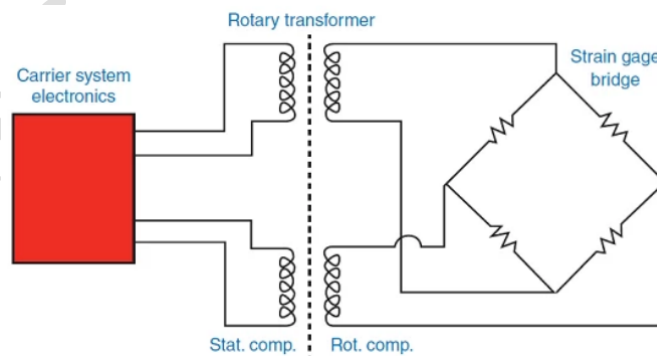

Fig.53 Two transformers are used - one to transmit the excitation signal and the other to transfer the bridge output signal.
d. Rotary Transformer (Fig.53)